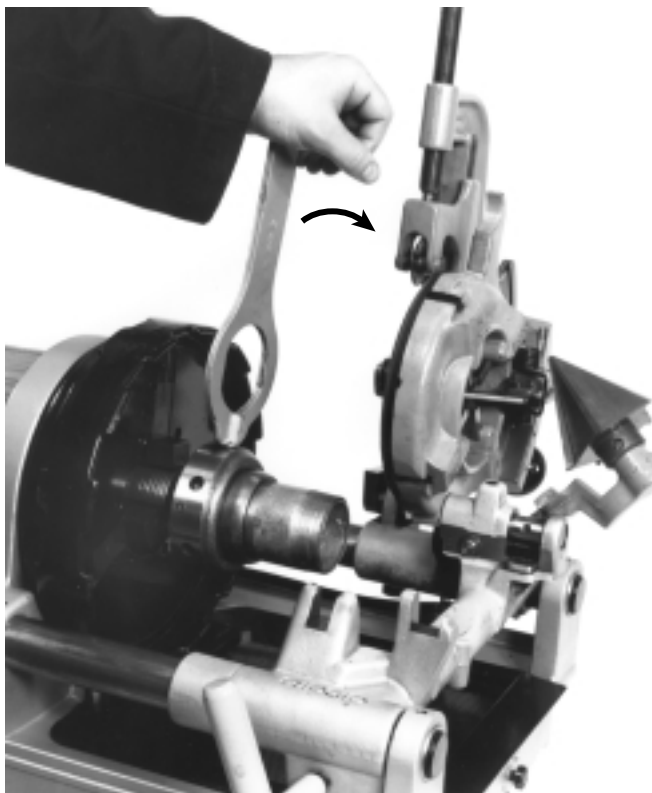

Figure 21 – Releasing Finished Nipple From 819 Nipple Chuck
6. Insert pin on end of wrench (Figure 21) into one of holes in nipple chuck release collar and turn. Remove threaded nipple by hand.